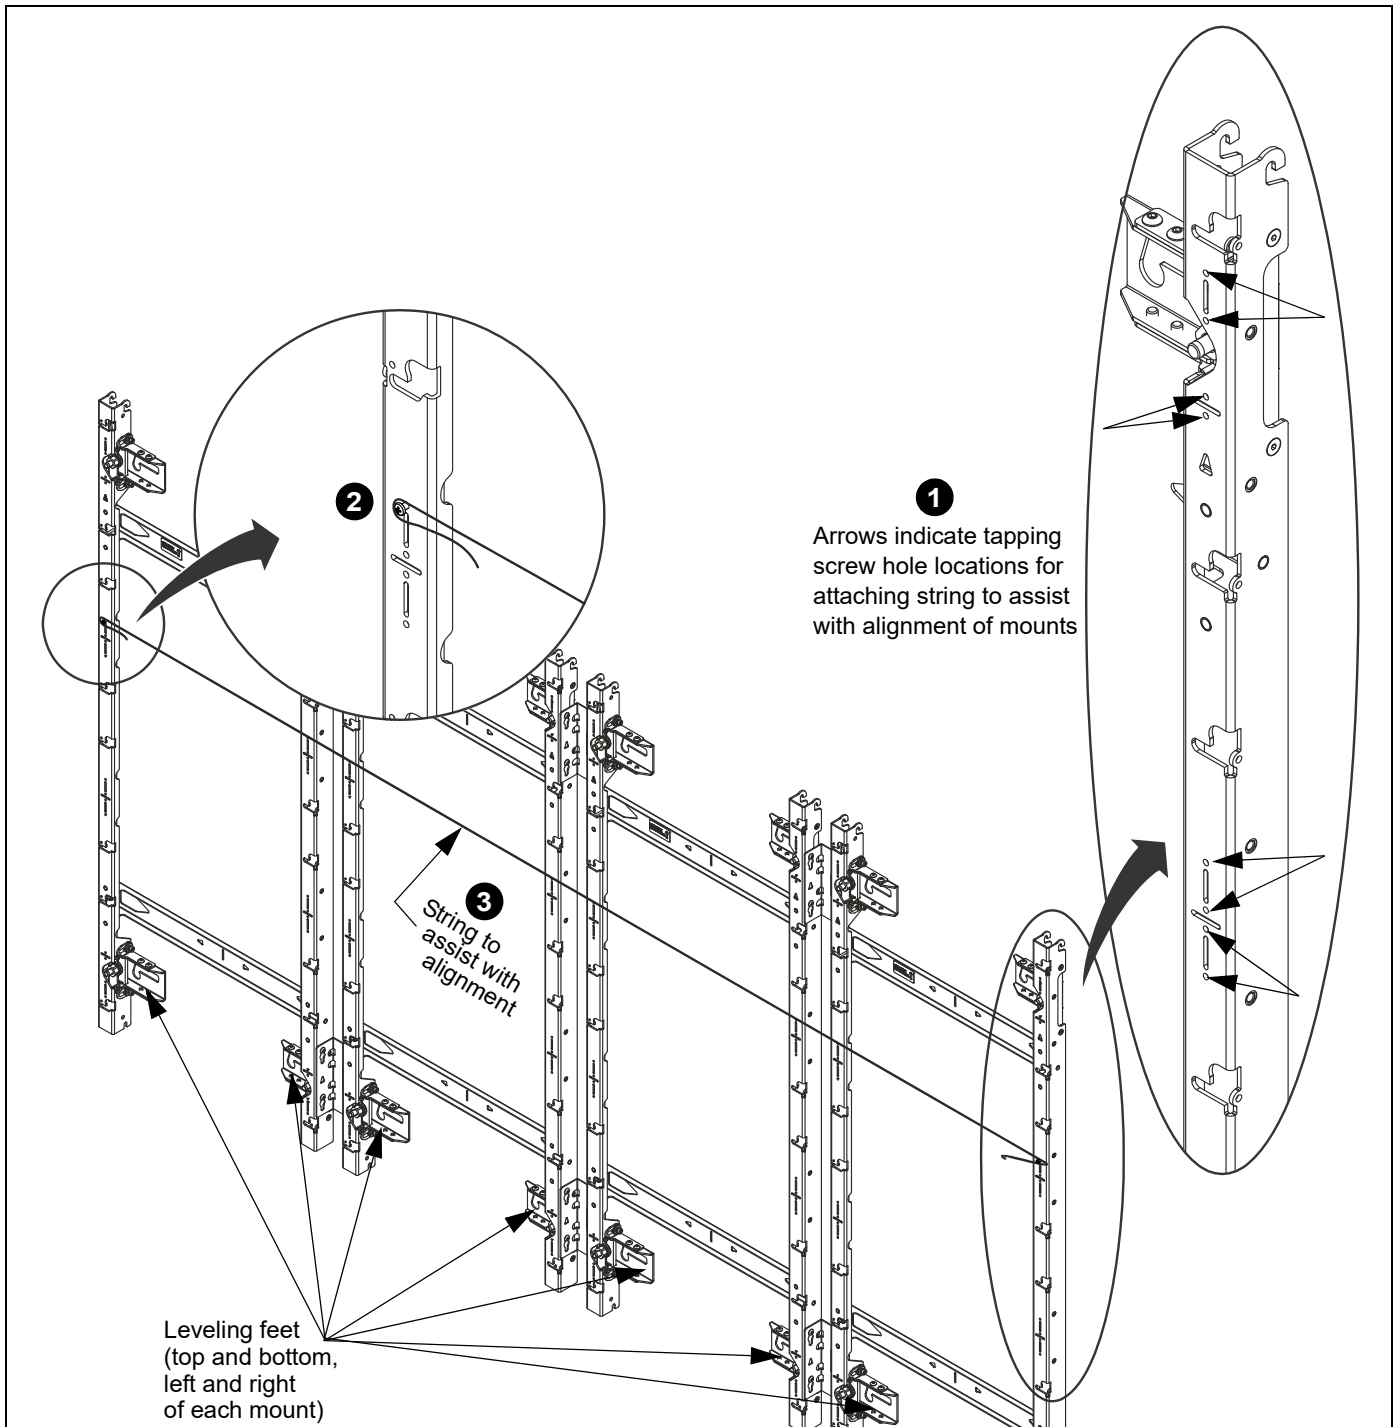

Figure 17
NOTE: There are multiple points on each mount where the screws can be installed for the plumb line. At a minimum, the plumb strings should be strung next to each adjustment point (at every leveling foot). (See Figure 17)
2. Loosely install the self-tapping screws then wrap the string around the screw and tighten. (See Figure 17)
3. Run the string tightly between the same hole at each end of the row of mounts. (See Figure 17)